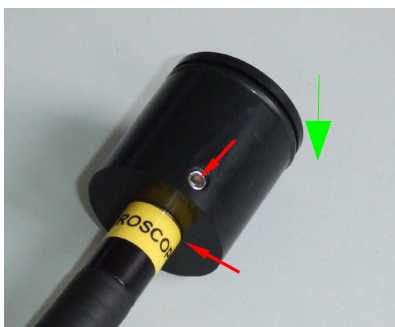

Fig. 5.2: NDD adapter inner part. The light guide should be mounted so there is no gap between label and adapter.
- Normally, light guide and adapter are aligned and assembled. Only if this is not the case, refer to the following mounting steps: The light guide should be mounted so that there is no gap between label and adapter (Fig. 5.2). Please do not exert too much force when fixing the light guide with the screw (Fig. 5.2) to the inner part since it may brake the light guide. Then assemble the inner part to the outer part (Fig. 5.3).